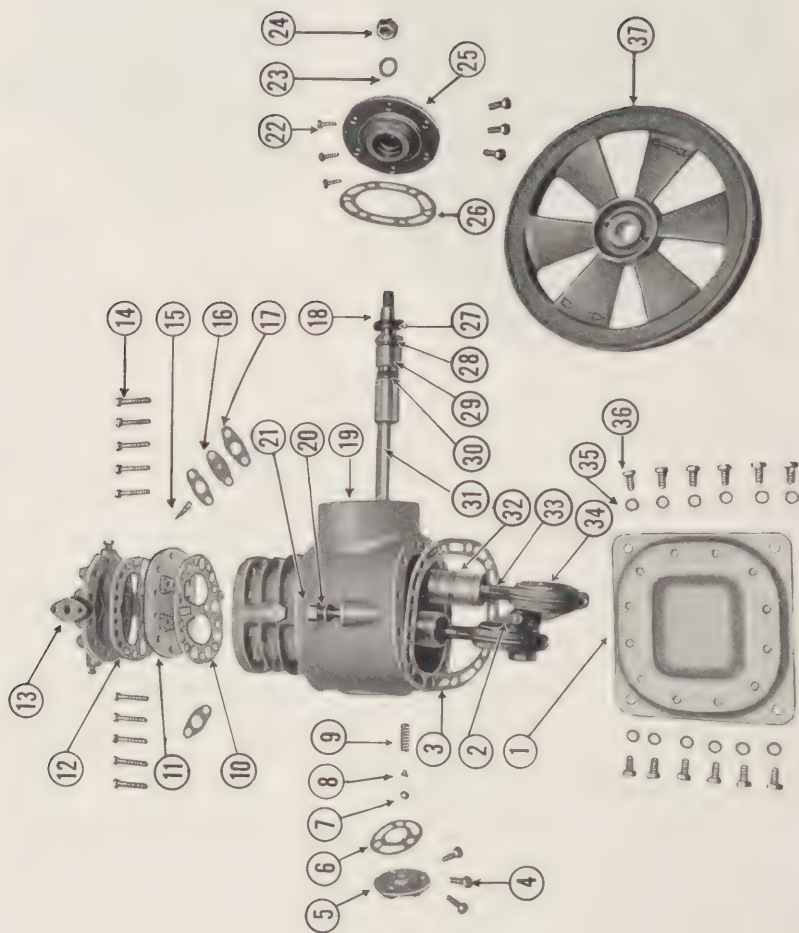

Figure 59. Compressor disassembled.
- (6) With compressor shaft key, 9R27100 (fig 59, item 31), in slot of shaft, insert shaft through seal housing end of compressor aligning key with keyway of eccentric. Place flywheel nut on shaft and drive the shaft into position using a wooden mallet or similar soft composition to avoid injury to the threads and shaft. Secure eccentric to shaft by tightening the Allen set screw (fig 50, item 1) in the eccentric.